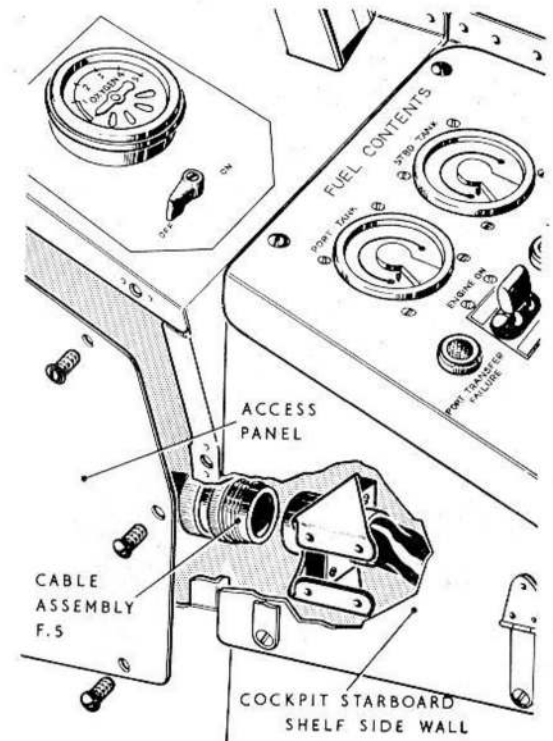

FIG.4 PLUG AT FORWARD END OF COCKPIT STARBOARD SHELF
- (3) Disconnect cables assemblies F33 and F34 from the A.C. junction box, fit approved caps and covers to the plugs and sockets and coil back the cable assemblies to the starboard shelf.
- (4) Disconnect cable assembly F5 from the plug mounting bracket at the forward end of the shelf (fig.4). Seal off the plug and socket with an approved cap and cover. Stow the cable assembly clear of the shelf.
- (5) Remove the mounting frame, carrying the D.M.E. control unit from the top surface of the shelf, by unscrewing the four screws. Disconnect the radio connector from the control unit and refit the mounting frame and control unit.
- (6) Release the emergency oxygen control cable duct, from the shelf side wall, by removing the bolt securing the clip around the top of the cable duct.
- (7) Release the shelf from the fixed structure by disengaging all the Dzus fasteners around the top face and side wall. Withdraw the shelf from the cabin, complete with cable assemblies F33 and F34.